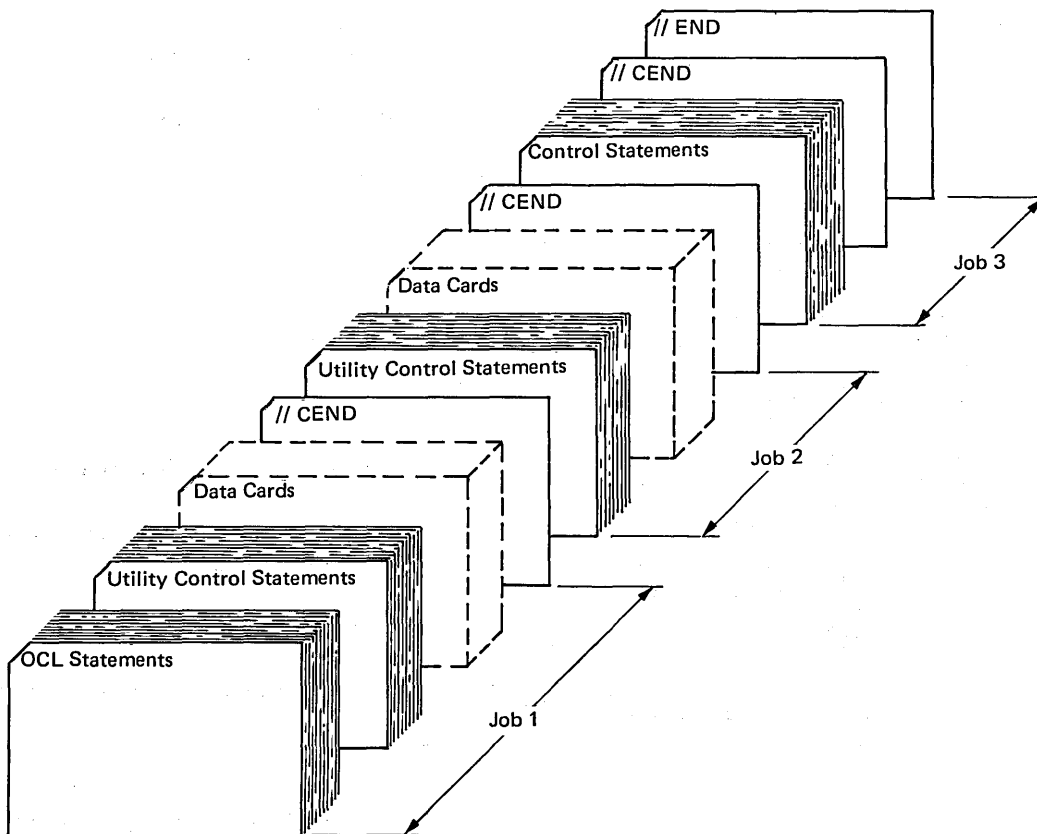

Figure 23. Order of Input to Library Maintenance Program (performing three jobs in one program run)
- Library Maintenance can be used to perform more than one job within one program run (Figure 23).